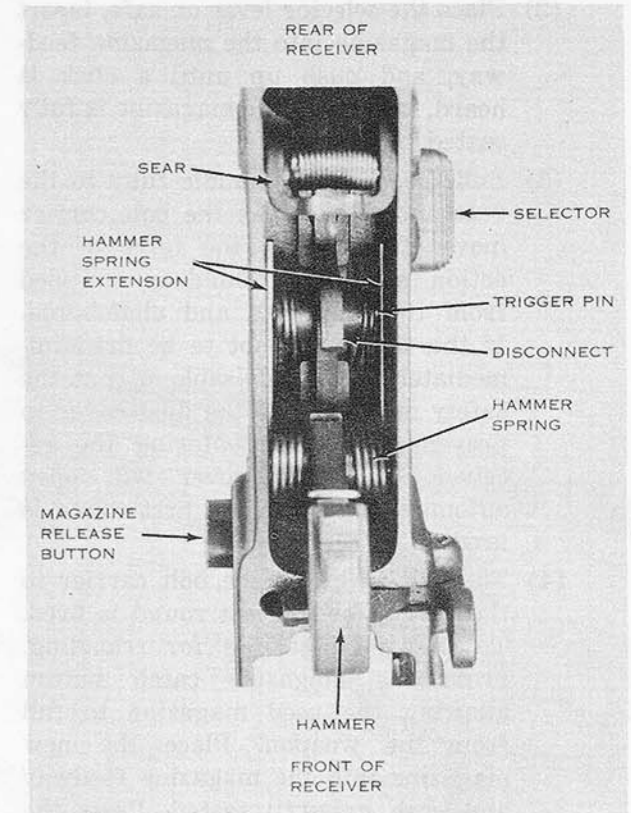

Figure 26. Position of the hammer spring in the receiver.
f. Press the hammer into its position in the receiver, insuring that the tails of the hammer spring are to the rear and in the grooves on either side of the trigger pin (fig. 26). Pushing down and forward on the hammer, align the holes in the receiver and the hammer. Use the firing pin to line up the holes and press in the hammer pin. This completes assembly of the lower receiver.